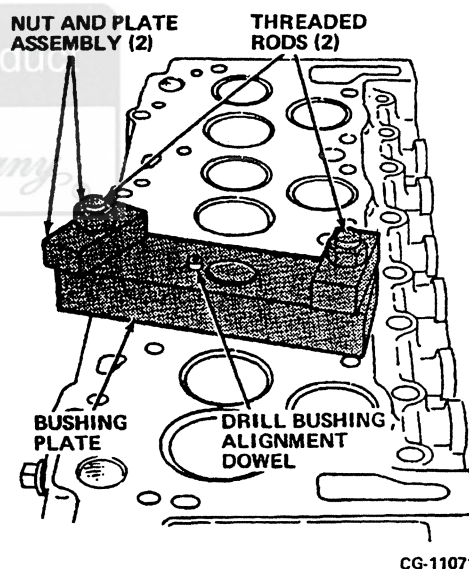

Figure 3.31. Bushing Plate Mounted Over Valve Guide
1. With cylinder head mounted in a holding fixture or on wood blocks, place the bushing plate over the guide to be serviced. Use the two threaded rods, the two nut and plate assemblies and the bushing plate. **DO NOT** tighten at this time. Refer to Figure 3.31.